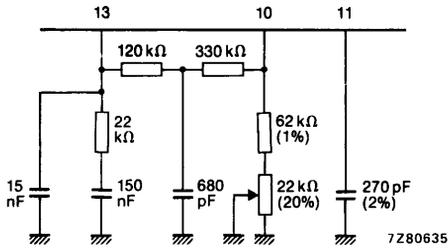

Fig. 2 PLL-filter for  $\alpha_2 = 70$  dB (see also Fig. 1).
3. PLL-filter for reduced intermodulation ( $\alpha_2$ ); see Fig. 2.